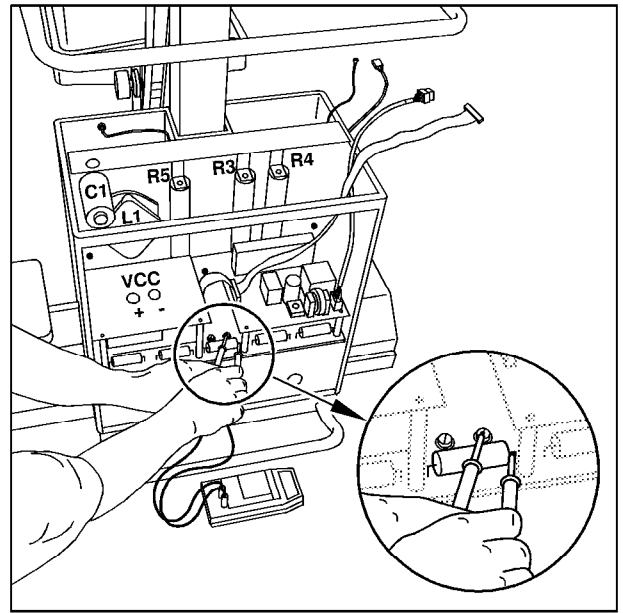

Fig. 1
- Always measure the actual voltage present with the DVM at test points -VCC and + VCC on the D 960 inverter board or (more accessible) on the D 970 capacitor board at the + connection point of capacitor C3 and on the right side of fuse F3. (refer to Fig .1)